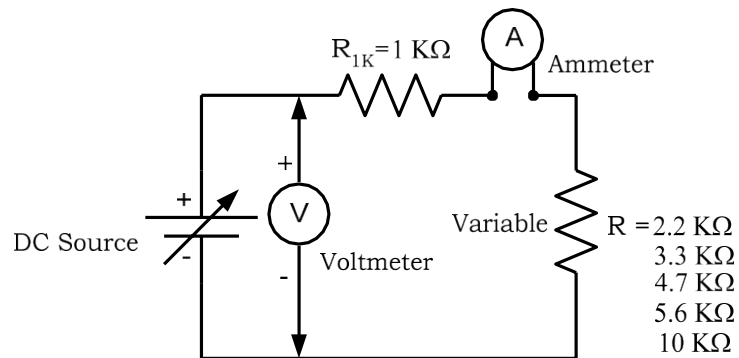

Figure 1.9: Verification of Ohm's Law
- Construct the circuit of Figure 1.9. Do not switch on the power supply.